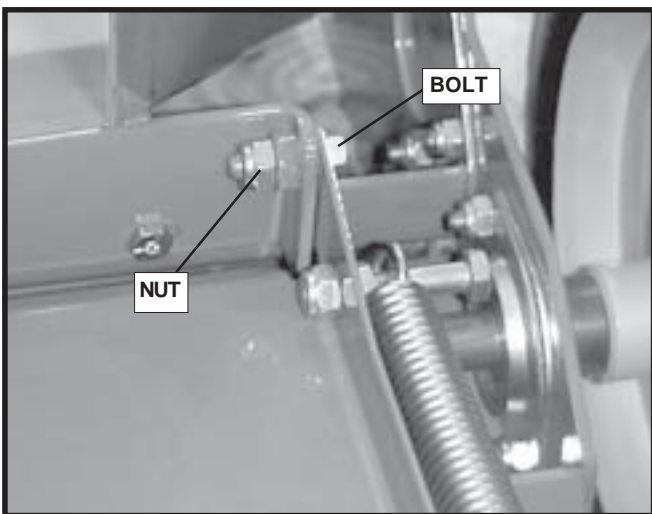

FIGURE 7
18. Place door in position and set the hinge bolts. DO NOT tighten the bolts, leave at least 1/16" space. Thread nut on to the bolt. See Figure 7